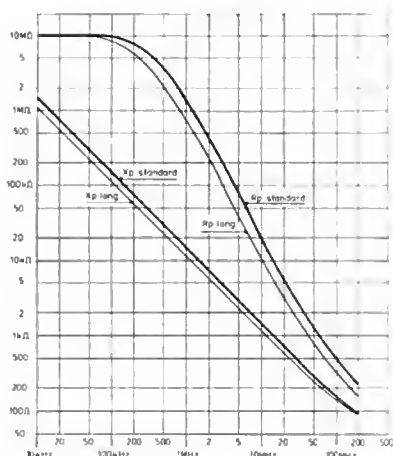

Fig. 3.33. Input resistance (R_p) and reactance (X_p) versus frequency.
a.c.	See curve Fig. 3.33.
Input resistance h.f.	See curve Fig. 3.33.